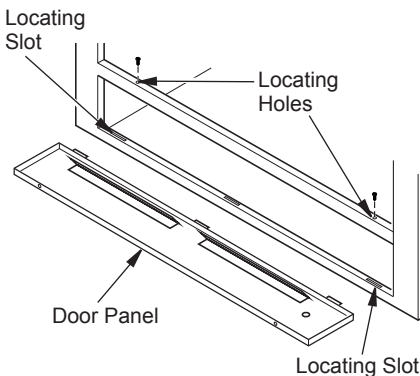

Figure 16 - Removing Lower Door Panel
2. Remove the 2 screws located at the top of the lower door panel. Slide door panel forward and up to remove tabs on panel from locating slots in firebox (see Figure 16).